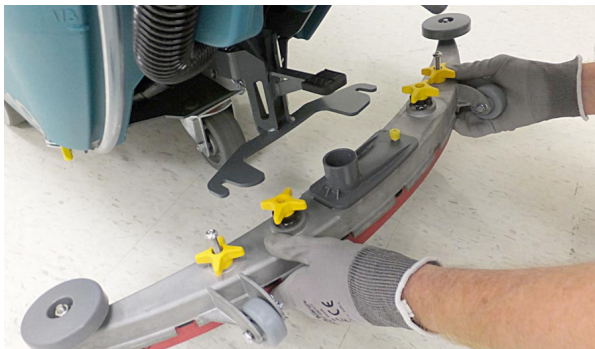

FIG. 6
2. Mount the squeegee assembly to the squeegee mount bracket (Figure 6). Tighten knobs to secure squeegee assembly to bracket.